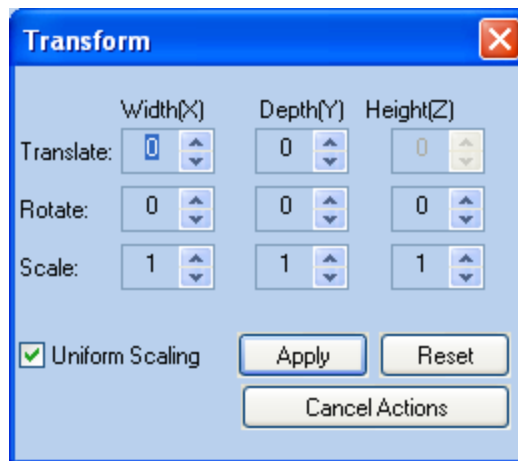

Figure 5-31 *Transform* dialog box
2. Display the *Transform* dialog box (see Figure 5-31 on page 5-27).